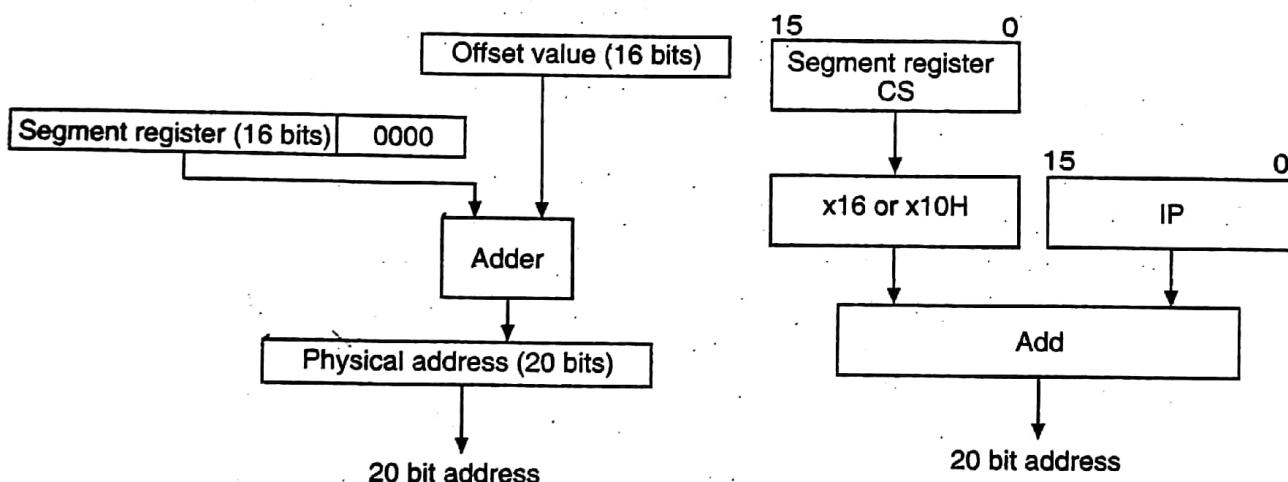

Figure 19.2 Generation of 20 bit physical address.
The IP contains the offset or logical address of the next byte to be read from the code segment. In fact it shows the distance of the current location, in bytes, from the base address given by the current code segment (CS) register. Figure 19.2 shows how this is done. The contents of the CS are shifted left by four bits. Bit 15 moves to bit 19 position. The lowest four bits are filled with zeroes or the CS register value is multiplied by decimal 16 or hexadecimal 10H. The resulting value is added to the instruction pointer contents to make up a 20 bit physical address. The CS makes up a segment base address and the IP is looked as an offset into this segment. This segmented model also applies to all the other general registers and segment registers in the 8086 device. For example, the SS and SP are combined in the same way to address the stack area in the physical memory.